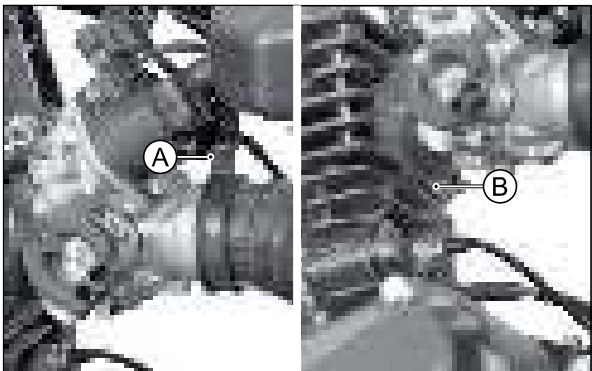

Fig. 3.27
- Loosen the hose clip (A) of tube air cleaner outlet and hose clip (B) of pipe intake complete. (Fig. 3.27)